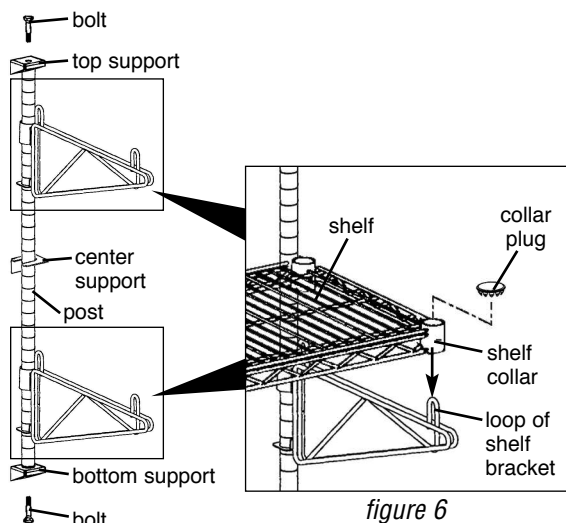

figure 6
- Lay shelf\* on top of wall brackets, and cover shelf collar openings with collar plugs (see figure 6).